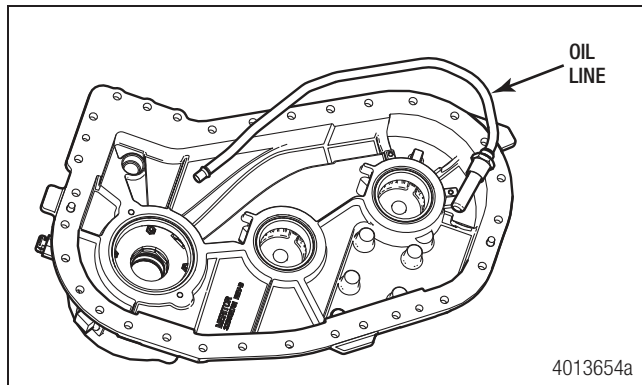

Figure 6.15
4. Remove the oil line from the rear case half. Figure 6.15.